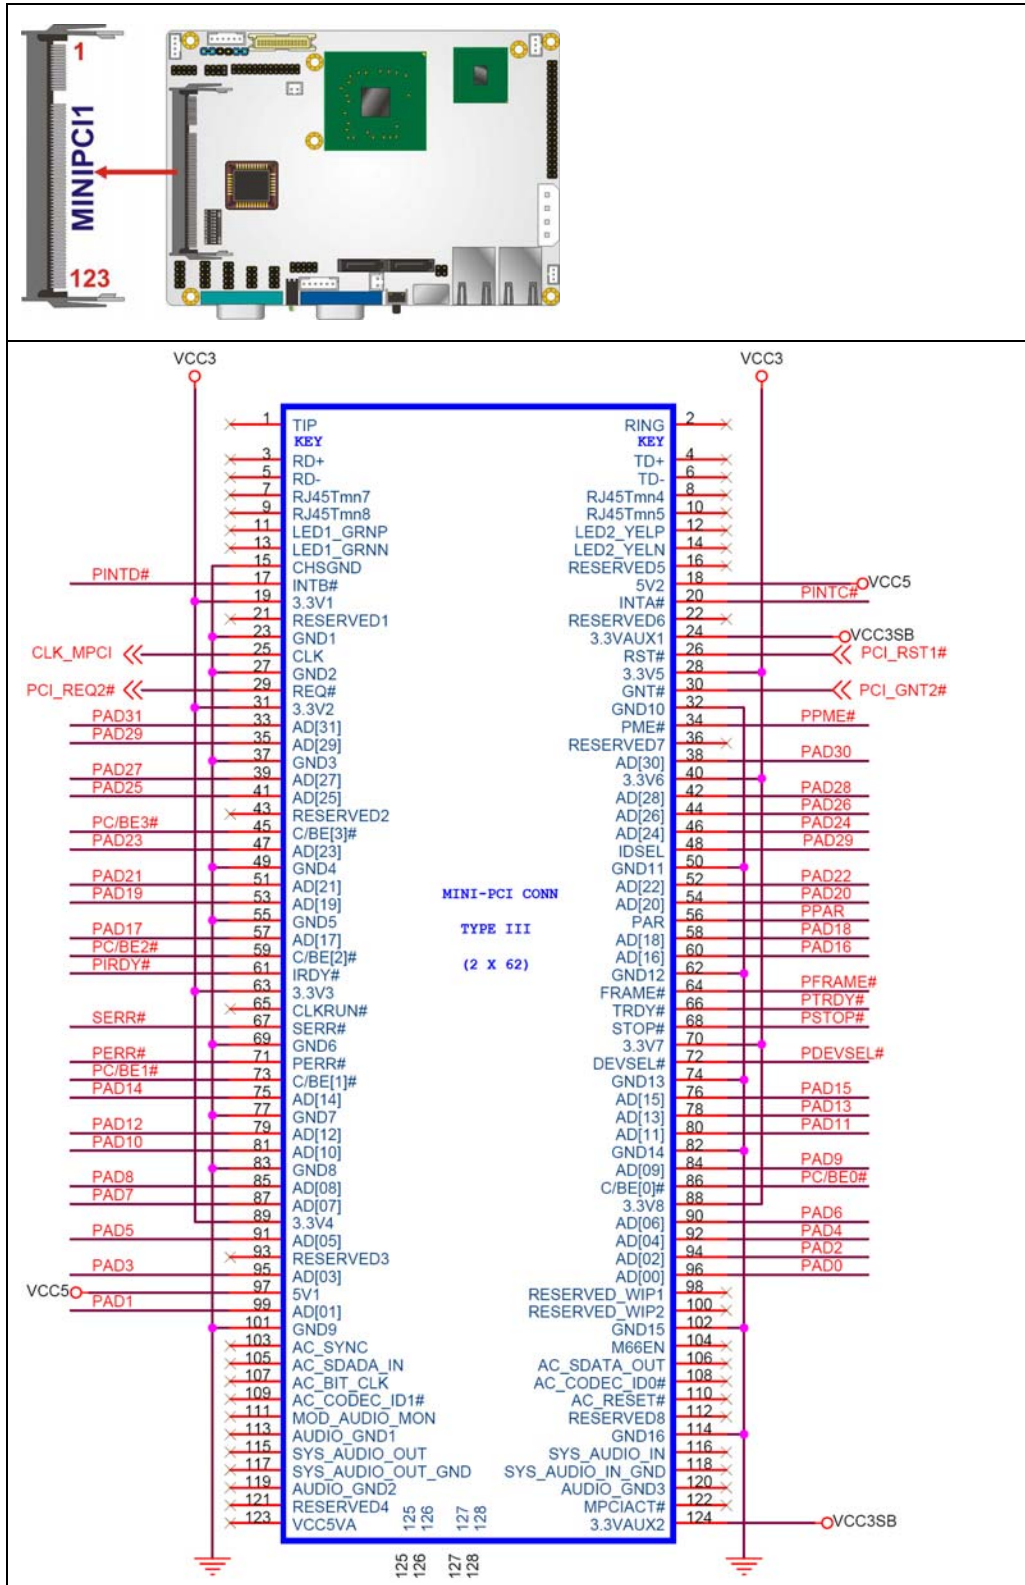

Figure 4-14: Mini PCI Slot Location
- CN Location:** See **Figure 4-14**